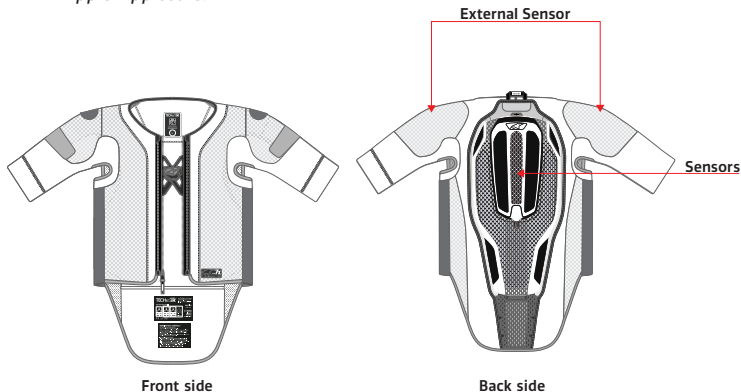

Figure 1 – Sensor Location
The System consists of an Airbag Control Unit (6) with built-in sensors integrated into the Back Protector (5) and with two external sensors positioned on the shoulders, as shown in Figure 1.